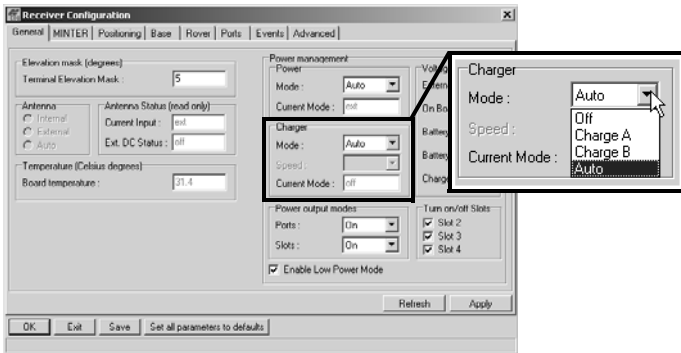

Figure 2-4. Select Charger Mode
4. Select the *Charger Mode* drop-down list to set the desired charger mode (Figure 2-4 on page 2-7). *Current Mode* displays the charging battery: a, b, or none (off).